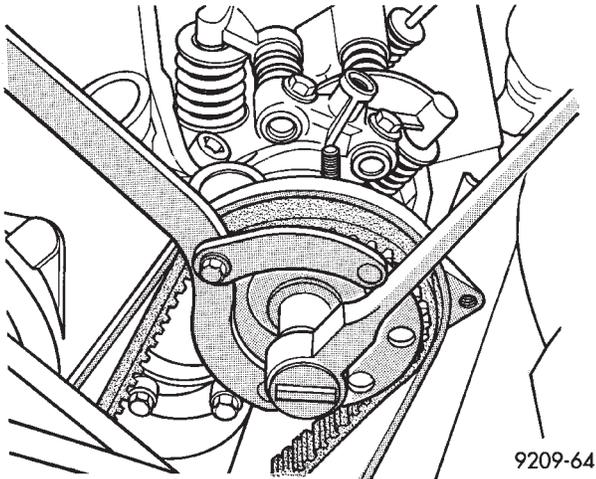

Fig. 15 Camshaft Sprockets
- (1) Hold camshaft sprocket with Spanner Tool MB990775 loosen and remove bolt and washer (Fig. 15).
- (2) Remove camshaft sprocket from camshaft.
- (1) Place camshaft sprocket on camshaft.
- (2) Install bolt and washer to camshaft. Using Spanner Tool MB990775 hold camshaft sprocket and torque bolt to 95 N·m (70 ft. lbs.) (Fig. 15).